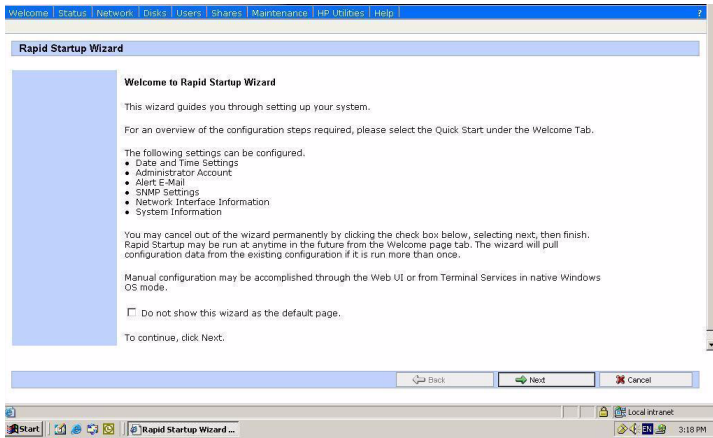

Figure 1 Rapid Startup wizard screen
4. Login to the WebUI. This launches the WebUI configuration application (Rapid Startup) on the target HP ProLiant Storage Server, as shown in Figure 1.
5. Open Internet Explorer to launch the WebUI configuration application (Rapid Startup) on the target storage server, as shown in Figure 1. If the WebUI does not launch connect to the `LocalHost` and login to the WebUI.
Ensure that an Internet Explorer window has been opened and the WebUI is at the Rapid Startup Wizard as shown in Figure 1.